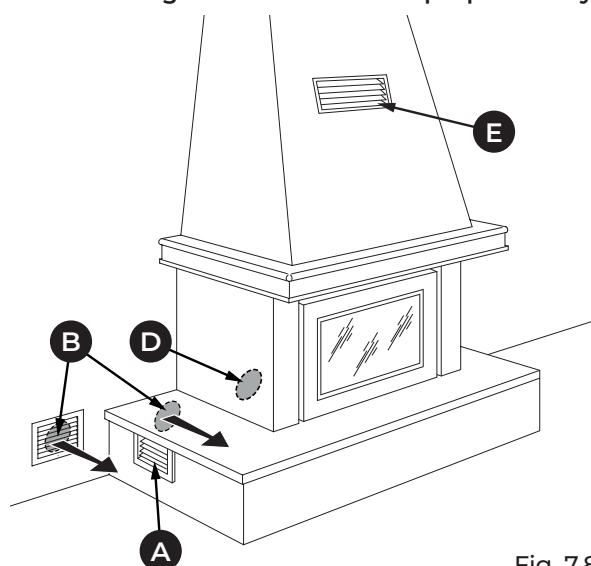

Fig. 7.8
- Fig. 7.8: lower grille (A) provided in the cladding and external air intake (B) for the recirculation of ambient air to be created inside or outside the cladding.